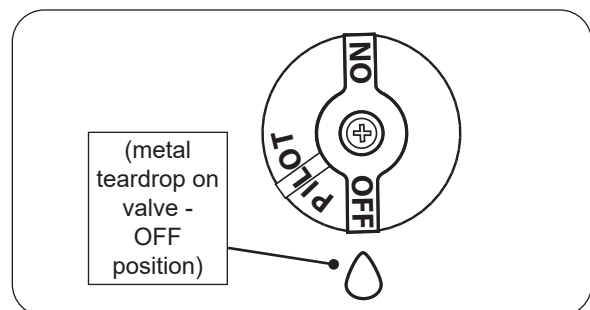

Fig. 38-2 Pilot shut down
2. Locate the valve on the side of the unit. Push in the gas control knob slightly and turn clockwise  to **OFF** (see Fig. 38-2).
Push in the control knob slightly and turn clockwise  to **OFF**. Do not force. See Fig. 38-2.